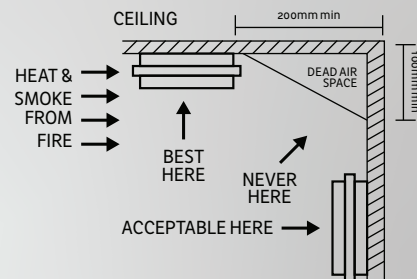

Figure. 1
- In dead space areas shown in figures 1 & 2.